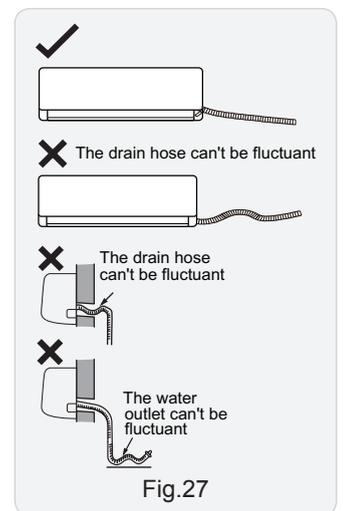

Fig.27
(3) Slant the drain hose slightly downwards. The drain hose cant be curved, raised and fluctuant, etc.(As show in Fig.27)